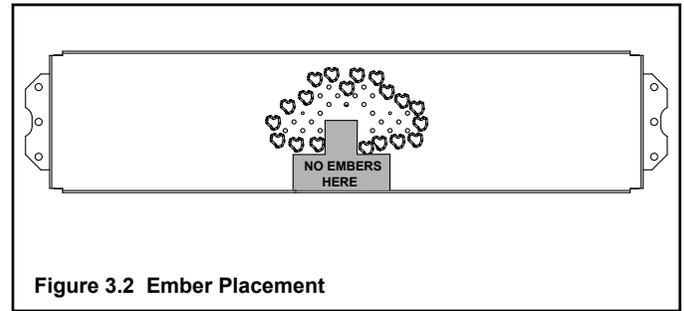

Figure 3.2 Ember Placement
- Replace Glowing embers with new dime-size pieces. **DO NOT** block ports or obstruct lighting paths. See Figure 3.2.
Do NOT place embers in the center area shown in Figure 3.2.